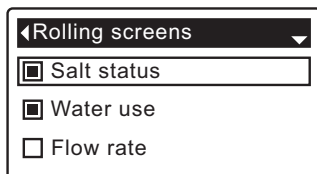

FIG. 47
5. Press the SELECT (O) button to display the Rolling screens menu (See Figure 47).